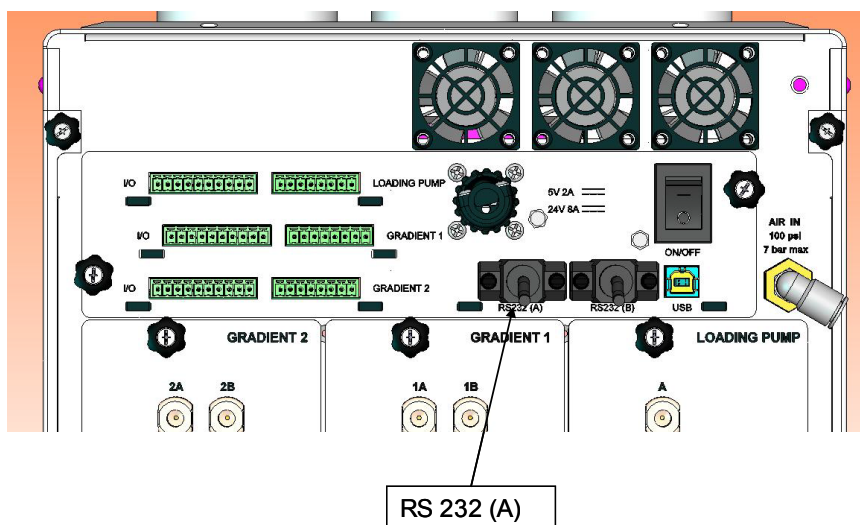

Figure 3-8 Back Panel—RS 232 (A) COM Port Connector Location
4. Connect the other end to one of the RS 232 (A) COM port at the back of the NanoLC Ultra system (Figure 3-8).